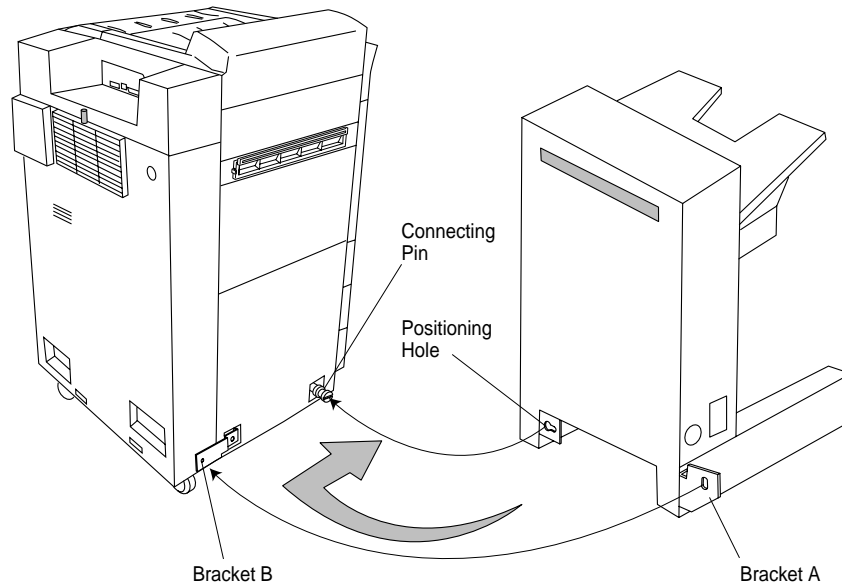

Figure 4-28 Attaching the HCO
3. Fit the connect pin into the larger circular section of the HCO positioning hole as shown in Figure 4-28.